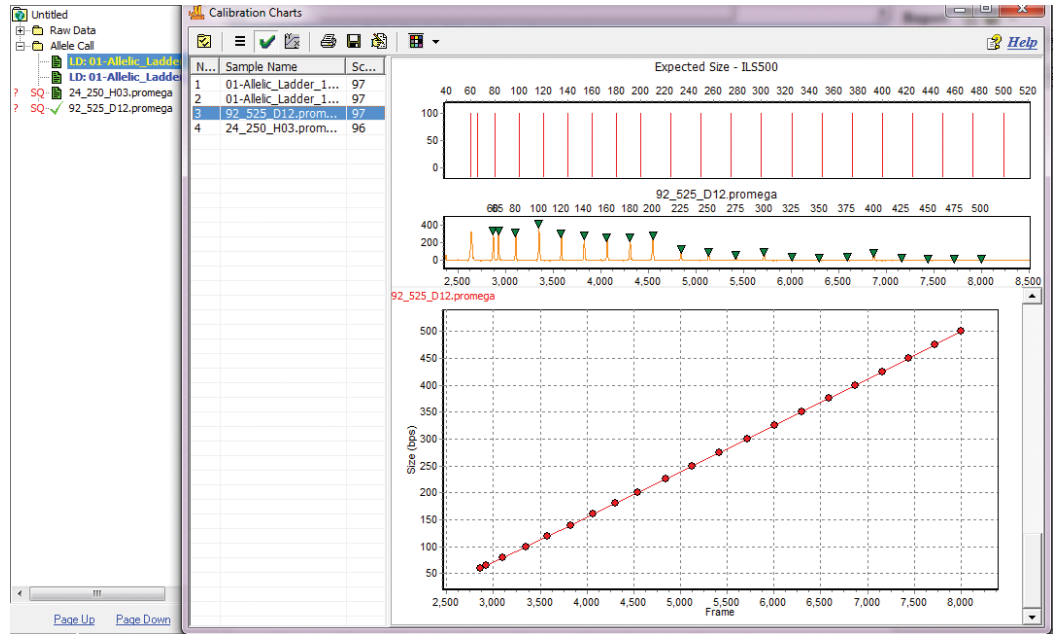
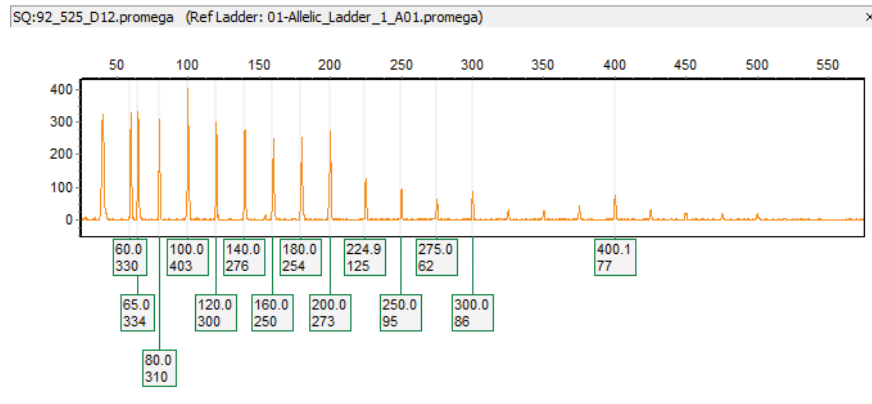

Figure 184. Example where all of the ILS fragments are detected in the 'Calibration Charts' window.
Figure 185. 'Main Analysis' window of the sample in Figure 166 showing one or more low-quality peaks not called by the software.
- Samples in which all ILS fragments are detected for pattern recognition and are in the linear range (Figure 184), but one or more peaks are of low quality and not called in the 'Main Analysis' window (Figure 185).